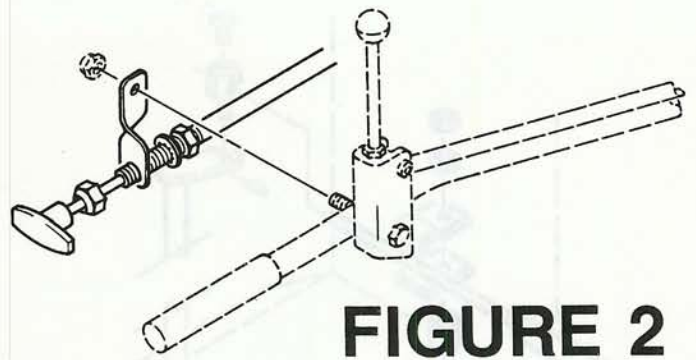

FIGURE 2
5. Remove the lock-nut on the R.H. handle and attach the cable mount bracket to the handle. Replace the lock-nut and tighten securely. As shown in FIG. 2.
6. Loosen the nut on the end of the cable and pull the nut and handle wire assembly out of the cable. Do not kink the wire. Turn the locking nut down on the cable and slide the end of the cable through the mount bracket. Slide the nut and handle wire assembly back into the cable (do not kink the wire) and tighten the nut on the end of the cable. Turn the locking nut and lockwasher up to the mount bracket and tighten securely as shown in FIG. 2.